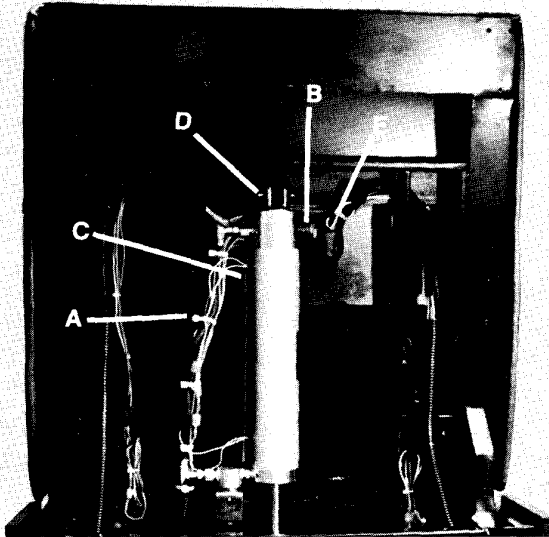
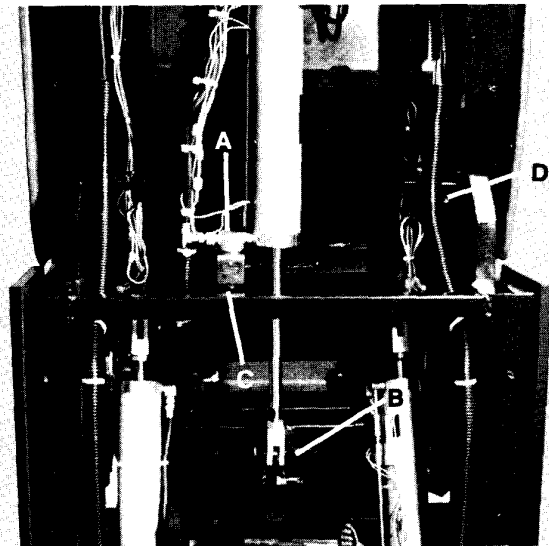

Fig. 31
Fig. 32
- 2) Remove the (5) nylon ties, Item A, Fig. 31 from the wires.
- 3) Remove the solenoid, Item B, Fig. 31 from the cylinder by removing the large nut with a  $\frac{3}{4}$ " wrench and pulling solenoid off of valve stem.
- 4) Disconnect the (4) wires to the (2) reed switches, Item C, Fig. 31 by pulling apart the quick-connect wire connectors. Note the wire connections so that they may be replaced exactly the same way.
- 5) Remove the anticavitation solenoid valve coil by prying off the small cap, Item C, Fig. 32 with a screwdriver and sliding the coil and bracket off the valve stem.
- 6) Remove the (1) hose fitting from the valve end of the cylinder and (1) hose fitting from the anticavitation solenoid valve at the rod end of the cylinder using a  $\frac{1}{2}$ " wrench.
- 7) With an assistant supporting the seat section, remove the cylinder from the chair by removing the cotter pin and clevis pin, Item B, Fig. 32 from the rod end of the cylinder and the "E"-ring and clevis pin, Item D, Fig. 31 from the valve end of the cylinder.
- 9) Place new cylinder in position and install clevis pin, Item D, Fig. 31 and "E"-ring at the valve end of the cylinder and clevis pin, Item B, Fig. 32 and cotter pin at the rod end of the cylinder.
- 10) Install solenoid, Item B, Fig. 31 on new cylinder by placing solenoid on valve stem and securing with the large nut.
- 11) Connect the (1) hose fitting tightly to the valve end of the cylinder and the (1) hose fitting tightly to the anticavitation solenoid valve at the rod end of the cylinder using a  $\frac{1}{2}$ " wrench.
- 12) Connect the (4) wires to the (2) reed switches, Item C, Fig. 31 by mating the quick-connect wire connectors. See Wiring Diagram on Page 47.
- 13) Replace the anticavitation solenoid valve coil and bracket on the valve stem and secure with the small cap, Item C, Fig. 32.
- 14) Install the (5) nylon ties, Item A, Fig. 31 on the wires.